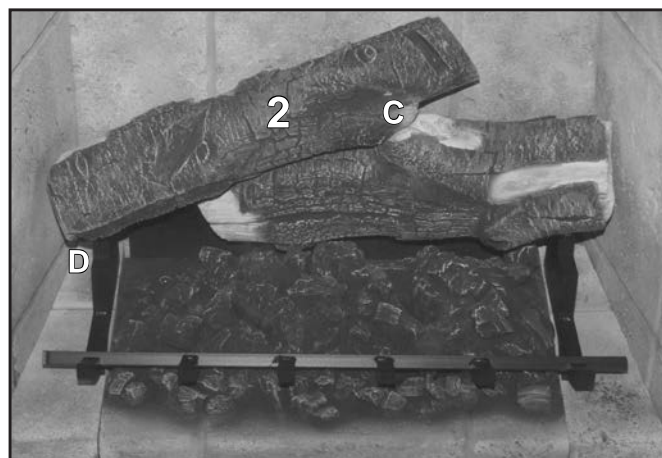

Figure 24: Log 2 in Place.
2. Install Left Rear log with the right side on the grate, using a groove on the bottom of the log to index itself to the grate (see Figure 24). The right side self locates on the first log. Alignment notches are provided for locating the centre area (see C in Figure 24). Align the front edge of the log with the upright section of the log grate (see D in Figure 24).